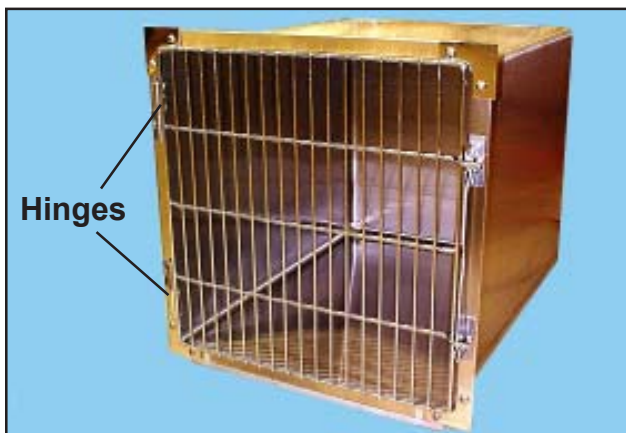

Figure 23. Hinges on a Regal Cage
1. With a punch and a small hammer, remove both hinge pins from the cage door (Figures 23 and 24).